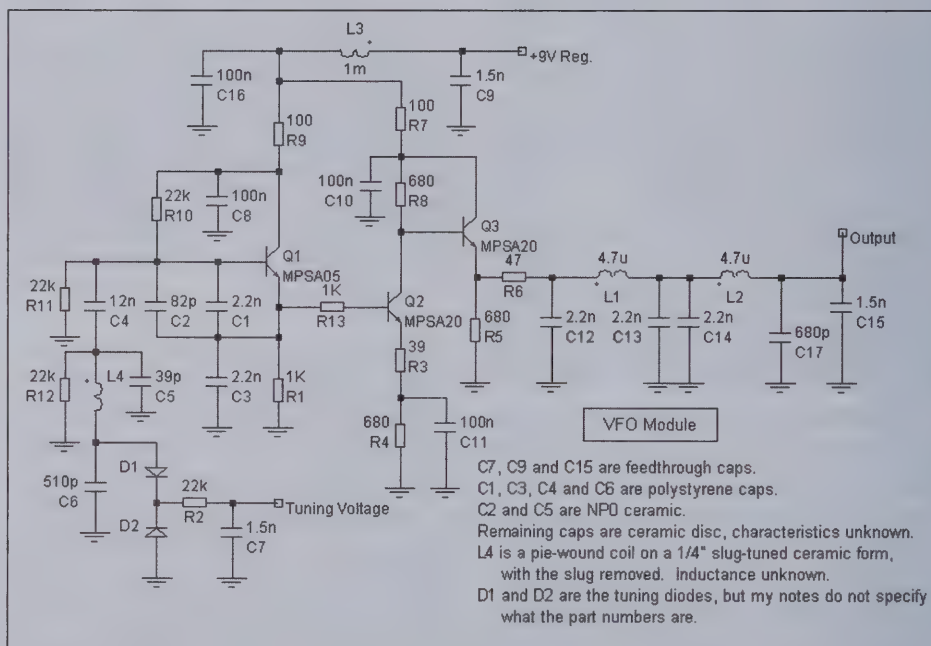

Figure 3—VFO schematic.
Frequency control is by means of a varactor-tuned Clapp VFO (Figures 3 & 4). The receiver’s intermediate frequency (IF) is 9 MHz, and the VFO tunes from 2 MHz down approximately 100 kHz. At this low frequency, there is very little drift, even from turn-on, and the receiver will stay on a stable station with no noticeable pitch change through any QSO.